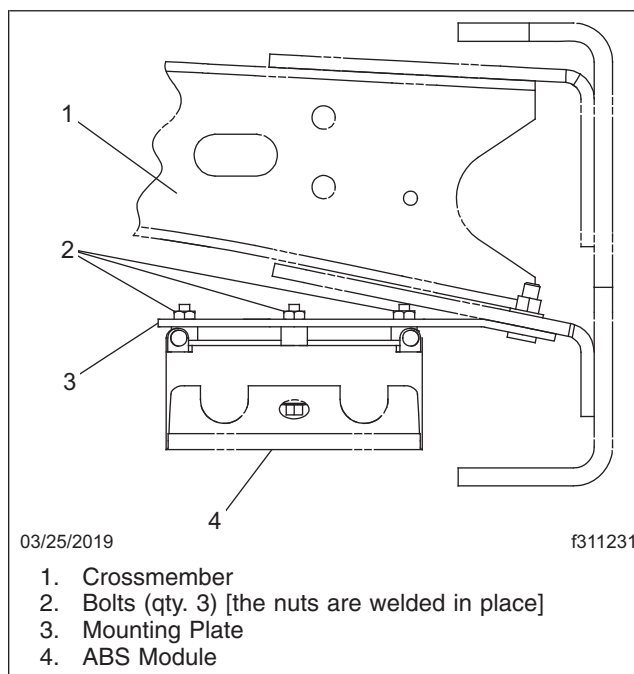

Fig. 1, Installing the ABS Module
1. Using the bolts, install the ABS module on the mounting plate. See Fig. 1. Tighten the bolts hand tight; the nuts are welded in place.